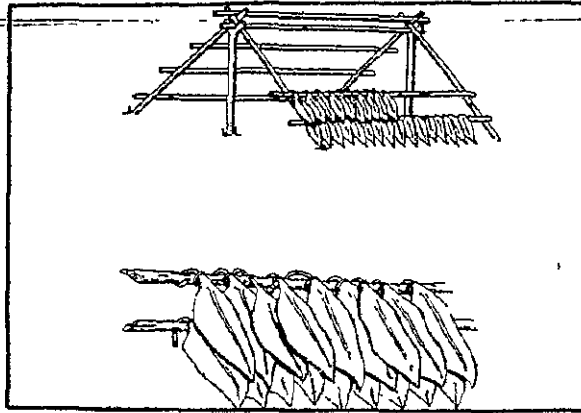

Figure 91. A-type framework.
(1) A simple parachute shelter can be made by draping a parachute over a rope or vine stretched between two trees.
(2) A thatched shelter (see figure 91) can be made by covering an A-type framework with a good thickness of palm or other leaves, pieces of bark, or mats of grass. Slant the thatch shingle fashion from the bottom upward. This shelter is considered ideal since it can be made completely waterproof. After you finish your shelter, dig a small drainage ditch just outside its lane and leading downhill; it will keep the floor dry.